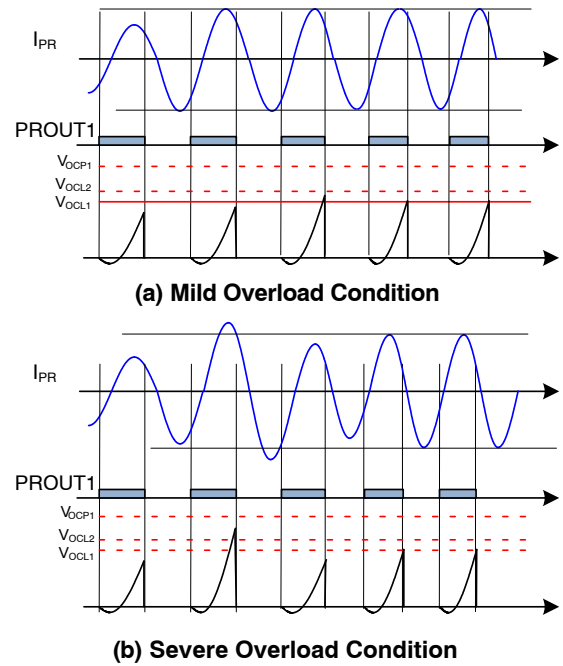
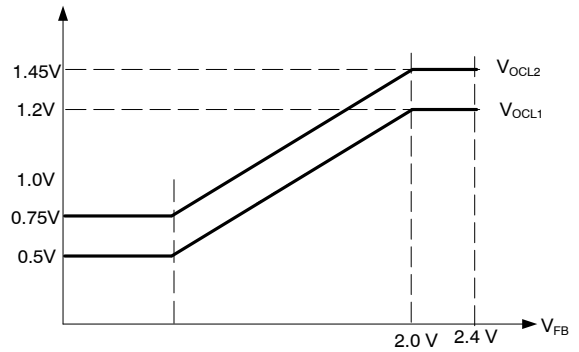

Figure 64. Current Limit of the ICS Pin by Frequency Shift (Compensation Cutback)
Figure 65. Current Limit Threshold Modulation as a Function of Feedback Voltage
- Over-Current Limit:** The V_{ICS} peak value is also used for input current limit. As can be seen in Figure 64, there exist two different current limits (fast and slow). When the V_{ICS} peak value increases above the slow current limit level (V_{OCL1}) due to a mild overload condition, the internal feedback compensation voltage is slowly reduced to limit the input power. This continues until the V_{ICS} peak value drops below V_{OCL1} . During a more severe over load condition, the V_{ICS} peak value crosses the fast current limit threshold (V_{OCL2}) and the internal feedback compensation voltage is quickly reduced to limit the input power as shown in Figure 64 (b). This continues until the V_{ICS} peak value drops below V_{OCL2} . The current limit threshold on the V_{ICS} peak value also changes as the output voltage sensing signal (V_{FB}) decreases such that output current is limited during overload condition as shown in Figure 65. In addition, these limit thresholds change to higher values ($V_{OCL1.BR}$ and $V_{OCL2.BR}$) when the converter operates in deep below resonance operation for a longer holdup time (refer to holdup time boost function)